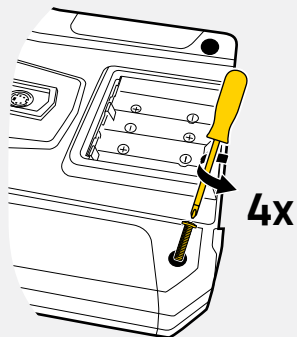

Fig. 12
2. Remove the 4 screws that hold the housing together (see [\[Fig. 12\]](#)).